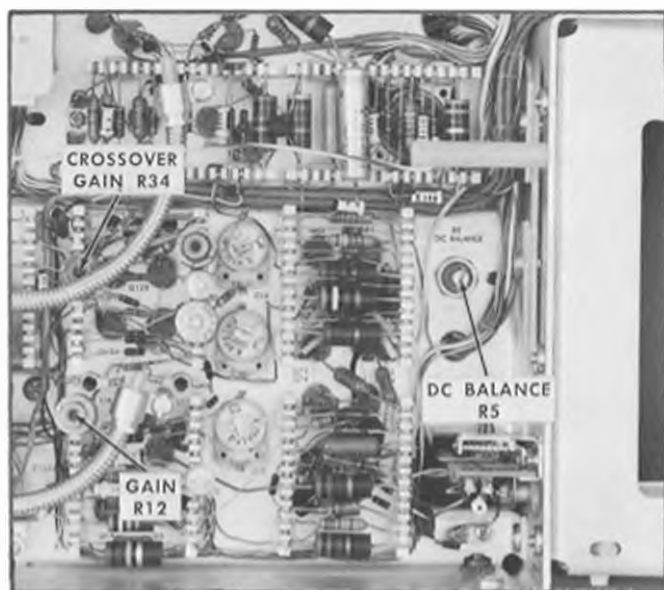

Fig. 6-20. Vertical amplifier DC balance and gain adjustments (left side view).
d. Adjust DC BALANCE control R5 (see Fig. 6-20) to center the trace on the Upper Beam graticula center line.